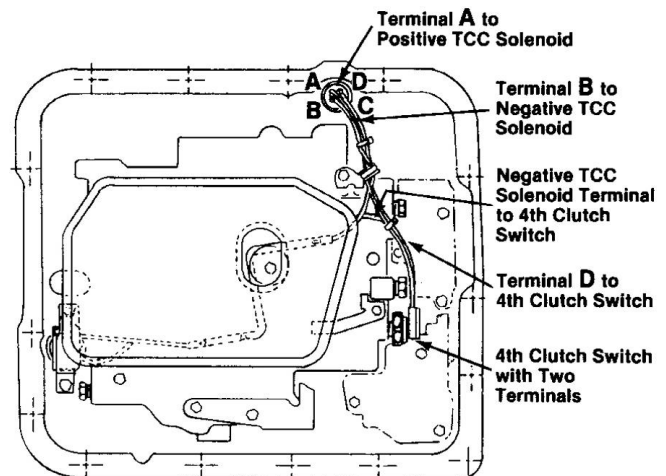

Figure 1: 700R4 Street/Strip Wiring Diagram
Step 3 — Based on your application, find the wiring diagram to determine the proper fourth gear pressure switch location. **See Figures 1, 2 and 3.** Install the switch and torque to 8 foot-pounds. Additional OEM switches may be left in place even though they will not be utilized.